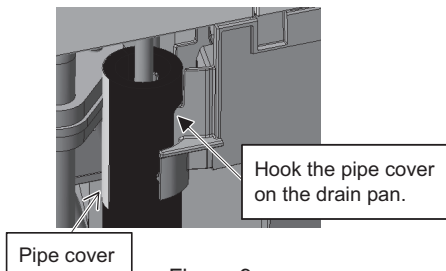

Figure 9
- (3) Hook the pipe cover on the left drain pan. (See Figure 9.)